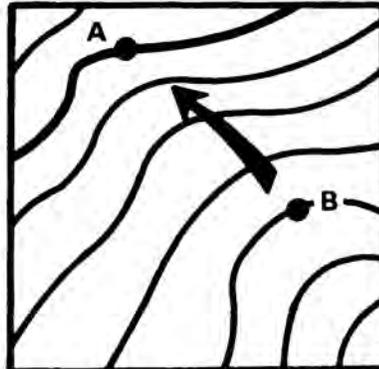

Figure C-23. Contour lines
- a. The brown lines on the map are called contour lines. Each line shows the height above sea level. Contour lines never cross one another. Printed at the bottom of the map is the contour interval, which is the difference in height (elevation) between one brown line and the one on either side of it. On a map with a scale of 1:50,000, the contour interval is usually 20 meters. This would make point A 80 meters higher or lower than point B (figure C-23).